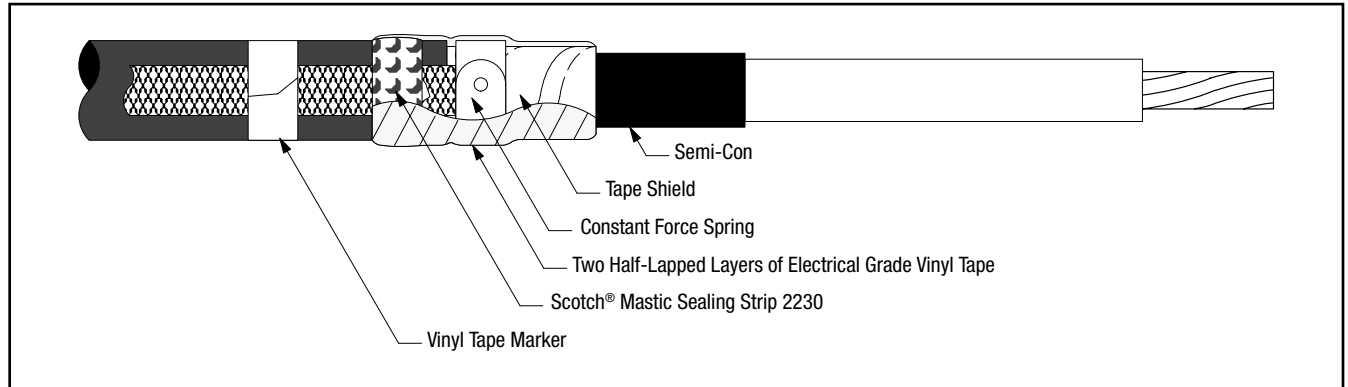

Figure 4
- 3.4 Wrap two highly stretched half-lapped layers of electrical grade vinyl tape around Scotch® Mastic Strip 2230, constant force spring and exposed tape shield (*Figure 4*).